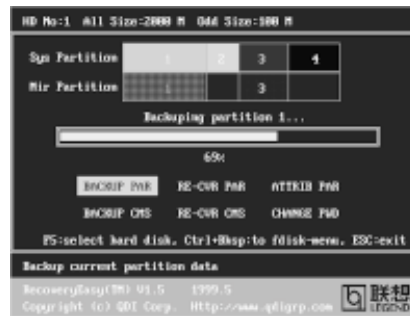

figure-4 Backup Partition
- a. During the process of partition backup or recovery, a gauge will be shown as below, the backup or recovery speed is about 4-5Mbyte/s. See figure-4.